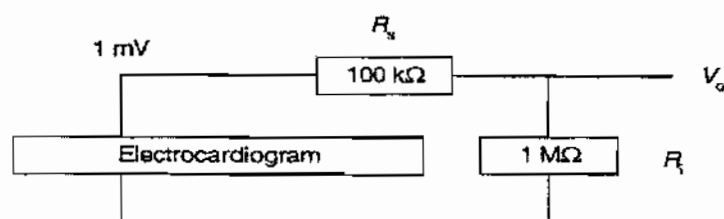

Figure 5
For the circuit illustrated in Figure 5 and the three signals (i), (ii) and (iii), determine which signal is undesirably attenuated and by how much? (8)
- (i) Initial recorded signal (electrocardiogram) from heart (V) = 1 mV